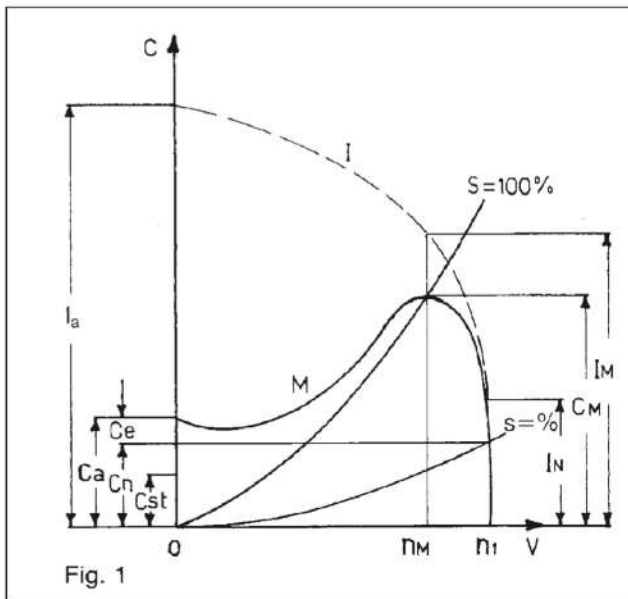

Fig. 1
Examining the diagram Torque (C) vs Speed (V) Fig. 1 on which the curves: